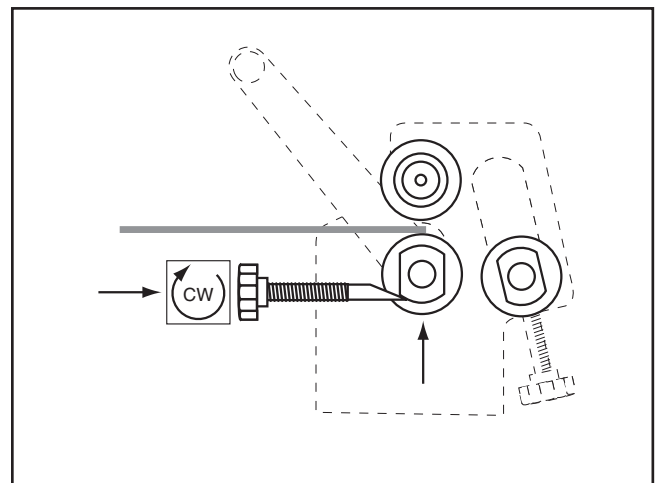

Figure 14. Raising bottom roller for flat rolling.
1. Place the workpiece between the top and bottom rollers, as shown in **Figure 14**. Turn the thickness adjust knobs to lift the bottom roller until the workpiece is held snug between the top and bottom rollers. Be sure to turn the thickness adjust knobs equal amounts.